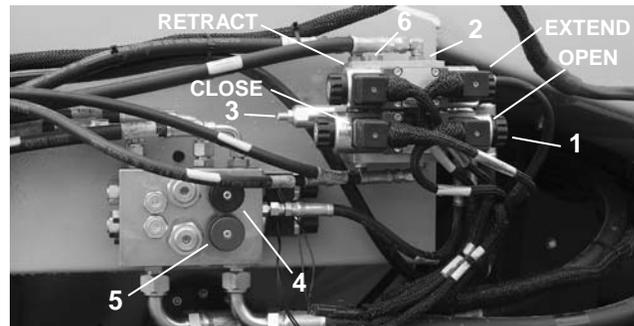
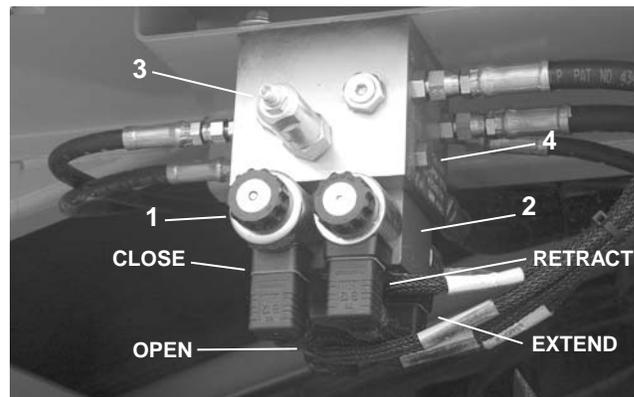

Figure 30. Left Hopper Valves
Figure 31. Right Hopper Block
2) Disconnect the electrical connectors from the gate valves (Fig 30 & 31 Ref 1). Make sure that all conveyor, auger and spreadroll switches are all in the “off” position before starting the engine. Make sure the shutoff valve is shut. Failure to do so could result in a blown gage. Back both standby pressure relief valves out about 2 turns. Start the engine and run it at low idle. Open the shutoff and monitor the gage pressure.
10) Reconnect the electrical connectors from the gate valves (Fig 30 & 31 Ref 1).
1) Install 2000 psi gage in “G” port of hopper manifold located on the left side of the left conveyor (Fig 30 Ref 6) and under the right walkway (Fig 31 Ref 4). This port is SAE 04 MB and requires a 3/16 allen wrench to remove the plug.
3) To adjust pressure, use 3/4” box wrench to loosen jam nut on set screw located on the reducing valve mounted on the left side of the left conveyor (Fig 30 Ref 3). If pressure is low, turn set screw clockwise. If pressure is high, turn set screw counterclockwise.
5) Repeat above procedure for the right gate reducing valve, (Fig 31 Ref 3) under the right side walkway.